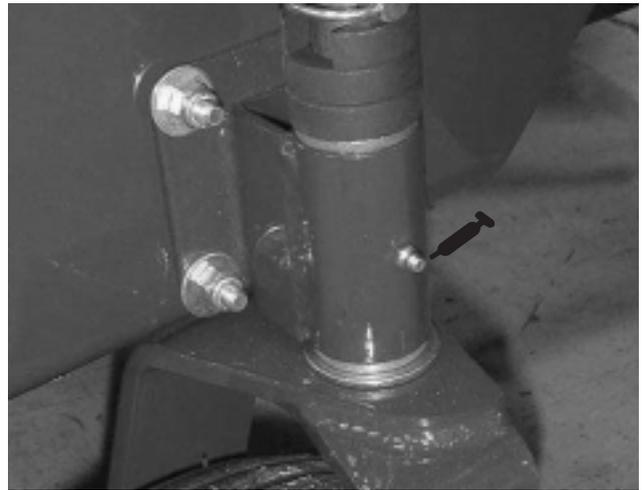

Figure 10
Under normal conditions, grease the (2) castor wheel pivot tubes (Fig. 10) after every 50 hours of use. Use a No. 2 Lithium-based grease.